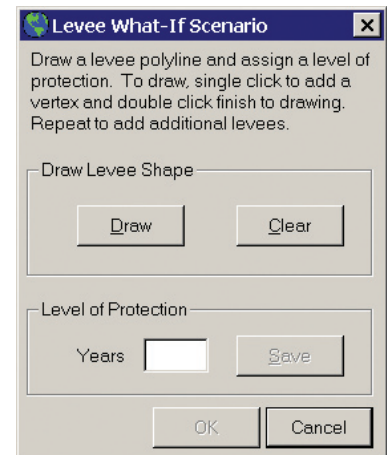

Figure 5-3 Levee options
- a. To include the Riverine Levee in the analysis, draw the levee shape using the “Draw” option on the levee menu (see Figure 5-3). Enter the level of protection (in years) next to “Years” and click “Save,” then “OK.”